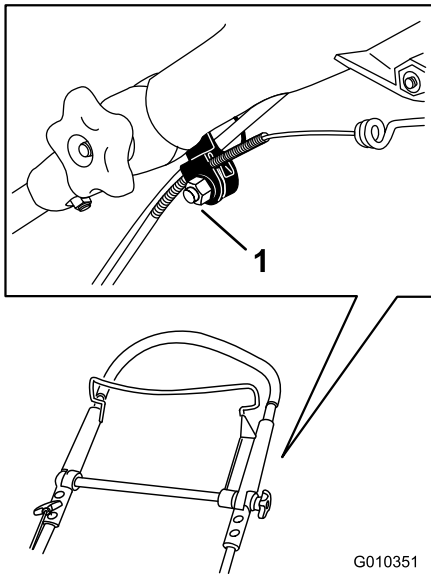

Figure 43
1. Loosen the nut on the cable mount (Figure 43).